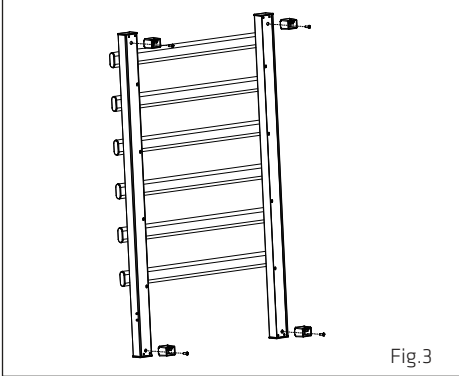

Fig.3
3. Fix the wall-mounted brackets to the appliance. (Fig 3)